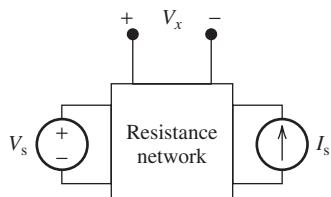

FIGURE P3.71 Circuit for Problem 3.71.
- 3.71 (H)** When $V_s = 4$ V and $I_s = 2$ A, then $V_x = 8$ V; when $V_s = 7$ V and $I_s = 1$ A, then $V_x = 6$ V. Find the voltage V_x in Figure P3.71 using the superposition principle when $V_s = 2$ V and $I_s = 6$ A.